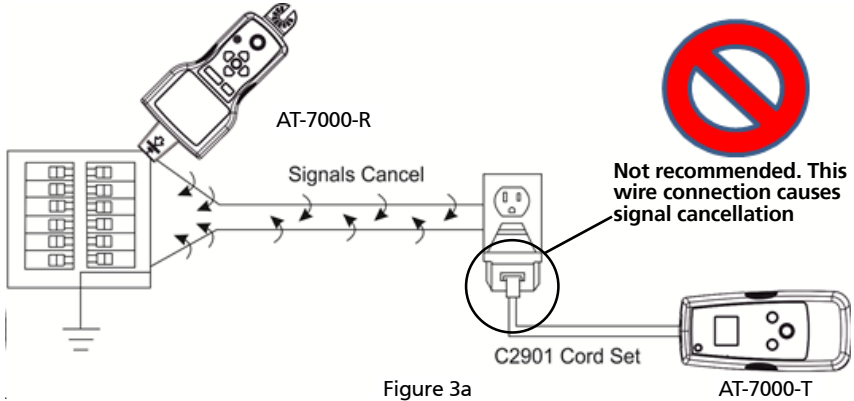

Figure 3a
2. . Connect red lead to energized hot wire (on the load side of the system). The signal will **ONLY** be transmitted between the outlet to which the transmitter is connected and the source of power (see Figure 3a).